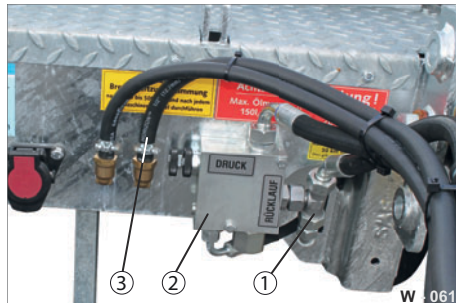

Fig. 29 Checking/maintenance of connections
- Check all hydraulic connection points (Fig. 29/1) for leaks (oil loss) and tight fit.
- Replace defective hydraulic components, e.g. distributor (Fig. 29/2) immediately.
- Check the hoses (Fig. 29/3) for crack formations/deformation.